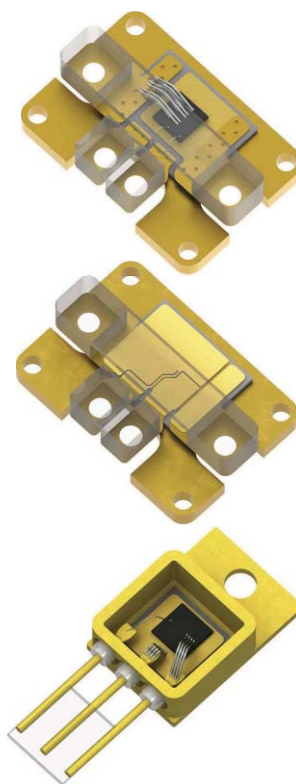

FIGURE 1: The custom SiC (top), custom GaN (middle), and TO (bottom) power modules.
oping power modules and discrete packages with better thermal management capabilities than the industry standard (see Figure 1). One of their designs has 25 percent reduced thermal resistance and half the inductance of the widely used transistor outline (TO) package.